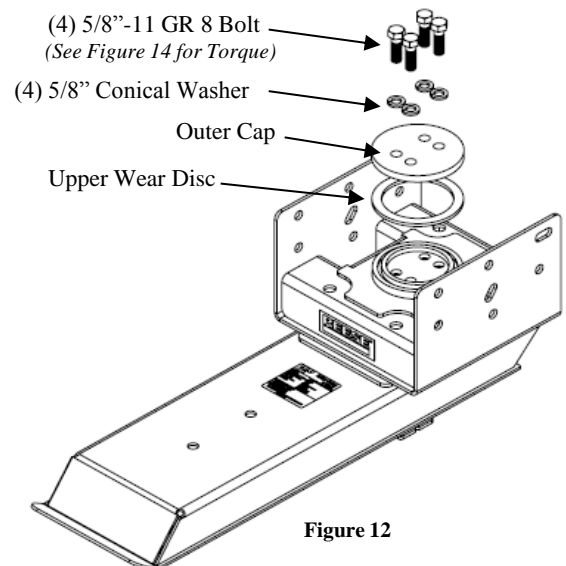

Figure 12
7. Install the upper wear disc and outer cap. Install (4) 5/8" Cap bolts & 5/8" conical washers, do not fully tighten these bolts at this time (figure 12).